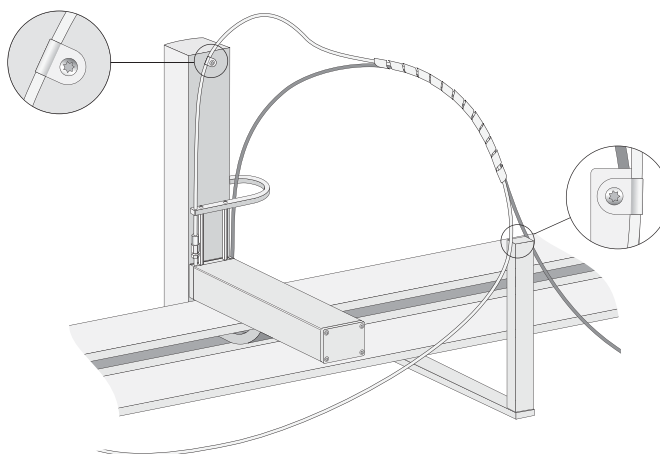

Figure 8. Connection of the Electrical Cable and Flush Gas Tube
6. Connect the Flush Gas Tube to the gas adapter at the Y-Axis Front Cover. Guide the tube to the top of the injection unit; use the tube adapter for fixation as shown in Figure 8.
7. Connect the electrical cable to the ITEX cartridge as described in the Addendum ITEX-2 Option. If the original cable is already connected, replace it with the provided one. The lengths of the cables are different. Guide the cable through the Hoop Guard and connect it to the top part of the Holder as shown in Figure 8.
8. Use the provided Cable Strap to hold the Flush Gas Tube and electrical Cable together as shown in Figure 8.
Figure 8 shows the setup and connections in side view.
Install an O-Ring in the syringe glass barrel to protect the flange (not shown in Figure 8).